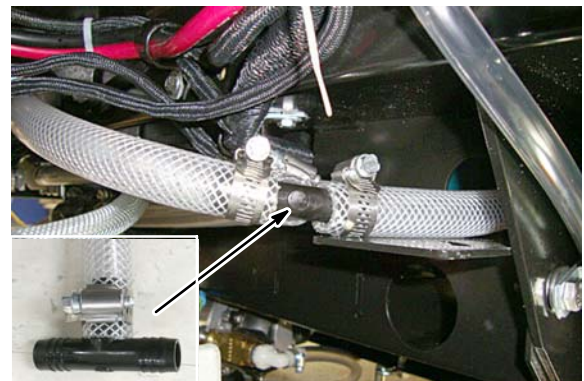

Fig. 26
6. Connect the T-fitting from the *ec-H2O* pump assembly as shown (Figure 26).